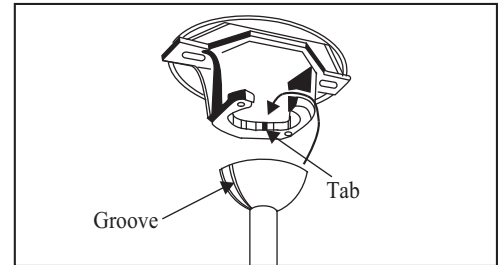

Figure 10
4. Carefully lift the fan assembly up to the ceiling mounting bracket and seat the hanger ball in the mounting bracket socket. Make sure the tab on the mounting bracket socket is properly seated in the groove in the hanger ball. (Figure 10)
THE TAB IN THE RING MUST REST IN THE GROOVE OF THE HANGER BALL AS FIGURE 10. FAILURE TO PROPERLY SEAT THE TAB IN THE GROOVE COULD CAUSE DAMAGE TO WIRING.